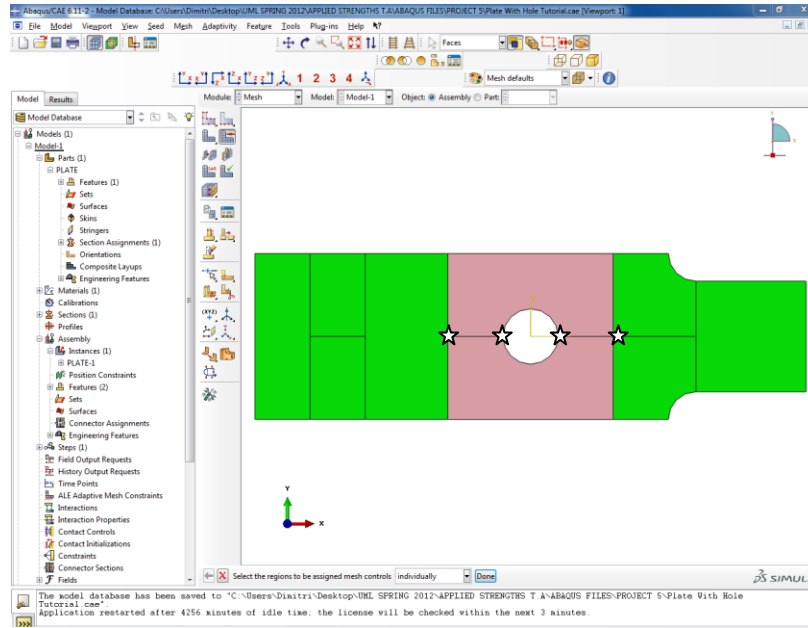

Figure 21. Mesh Regions
- All of the regions of the model should turn a green color except for the two regions that define the central hole (Figure 21).
- While holding shift of the keyboard click controls the four nodes that join the two regions along the x-axis (Denoted by the stars in Figure 21).